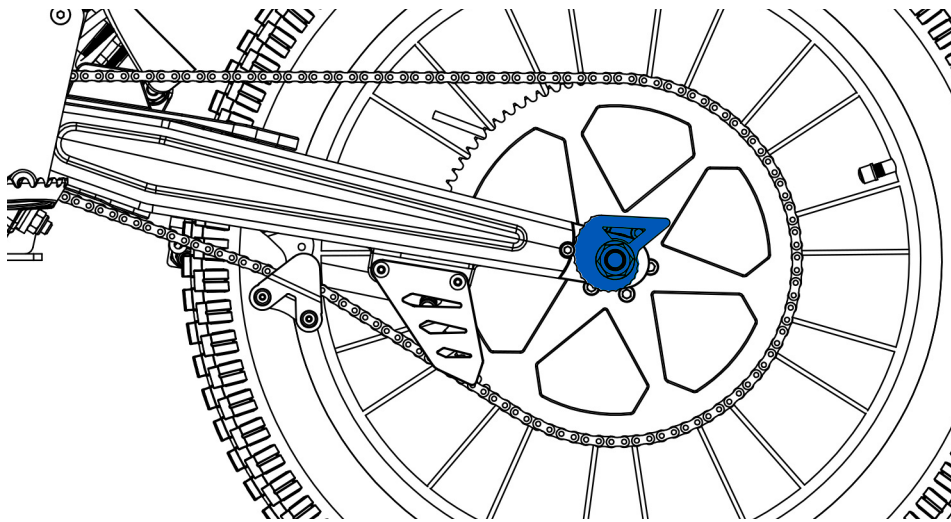

Fig. 15
- 3- Turn the eccentric adjuster (Figure 15), to a position depending on the chain slack, and obtain the correct tension. Make sure that the stop is located between the teeth of the eccentric adjuster and the two sides equally. These components must be placed in the correct position according to the required tension level.
Figure 15 shows the configuration corresponding to the minimum position of the wheel, which must be maintained until half of the travel is reached.